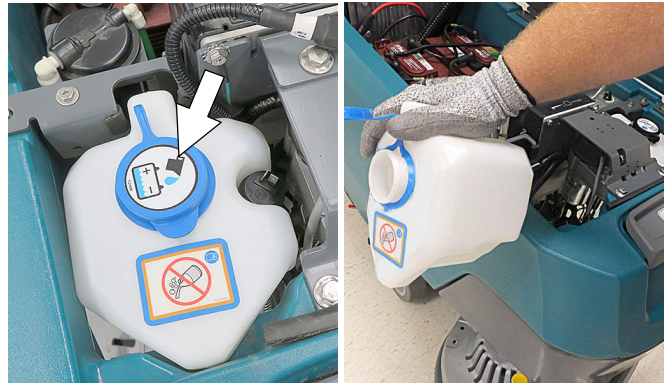

FIG. 99
5. Models equipped with optional automatic battery watering tank - Lift tank from machine and empty the water from tank (Figure 99).